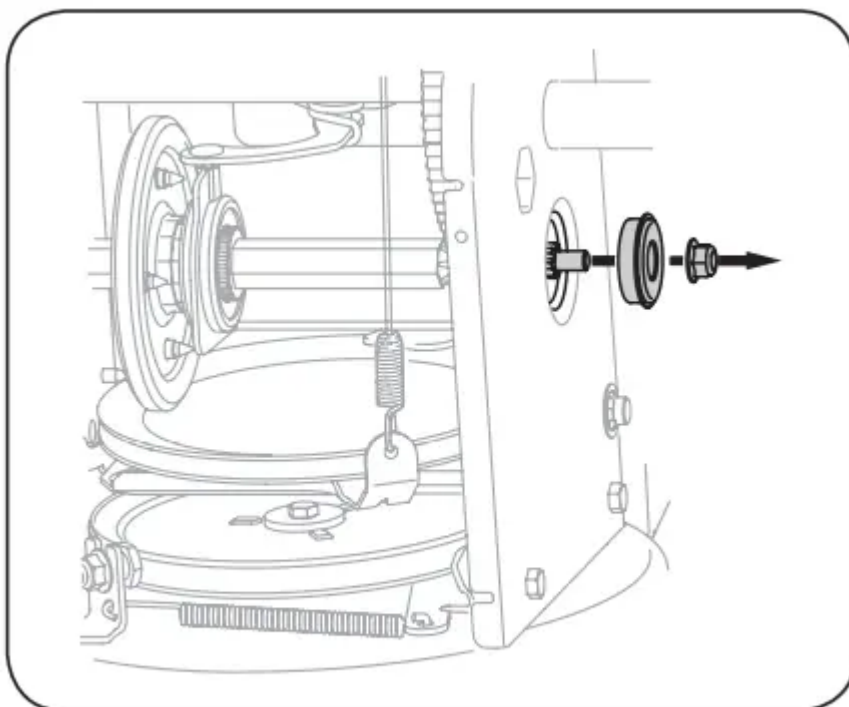

Figure 73
6. Carefully remove the hex nut and washer which secures the hex shaft to the snow blower frame and lightly tap the shaft's end to dislodge the ball bearing from the right side of the frame. See Figure 73.